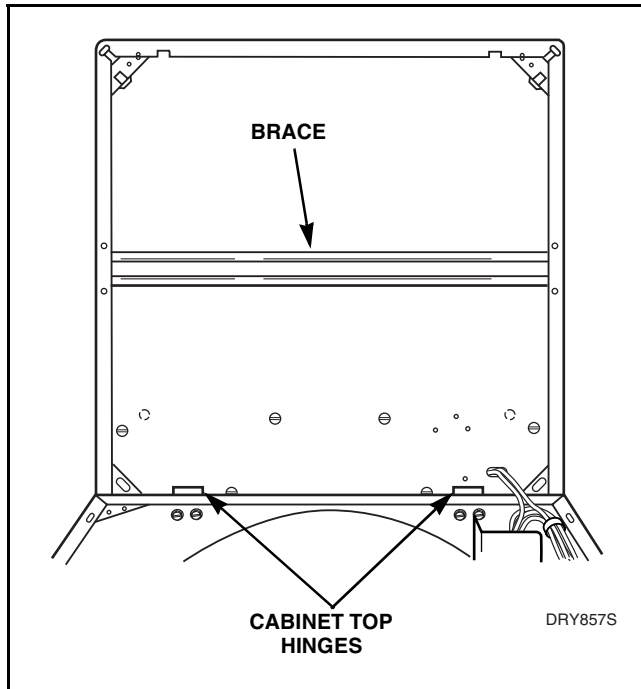

Figure 15
- Lift cabinet top to a vertical position by hinging it on the rear hold-down bracket. Refer to *Figure 15*.
- Carefully withdraw the wire harness through hole in cabinet top and lift the entire cabinet top assembly off the hold-down brackets. Refer to *Figure 15*.
- Lift cabinet top to a vertical position by hinging it on the rear hold-down brackets. Refer to Figure 15.
- Carefully withdraw the wire harness through hole in cabinet top and lift the entire cabinet top assembly off the hold-down brackets. Refer to Figure 15.
- m. Lift cabinet top to a vertical position by hinging it on the rear hold-down brackets. Refer to *Figure 15*.
- n. Carefully withdraw the wire harness through hole in cabinet top and lift the entire cabinet top assembly off the hold-down brackets. Refer to *Figure 15*.
- q. Remove brace from underside of cabinet top by swinging one end toward front or rear. Refer to *Figure 15*.
- n. Lift cabinet top to a vertical position by hinging it on the rear hold-down bracket. Refer to *Figure 15*.
- o. Carefully withdraw the wire harness through hole in cabinet top and lift the entire cabinet top assembly off the hold-down brackets. Refer to *Figure 15*.
- k. Lift cabinet top to a vertical position by hinging it on the rear hold-down bracket. Refer to *Figure 15*.
- l. Carefully withdraw the wire harness through hole in cabinet top and lift the entire cabinet top assembly off the hold-down brackets. Refer to *Figure 15*.